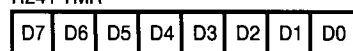

**Figure 21. Stop-Mode Recovery Source**
**Stop-Mode Recovery Source (D2, D3, and D4).** Bits 2, 3, and 4 of the SMR register specify the wake-up source of the Stop-Mode Recovery signal (Table 4 and Figure 21).